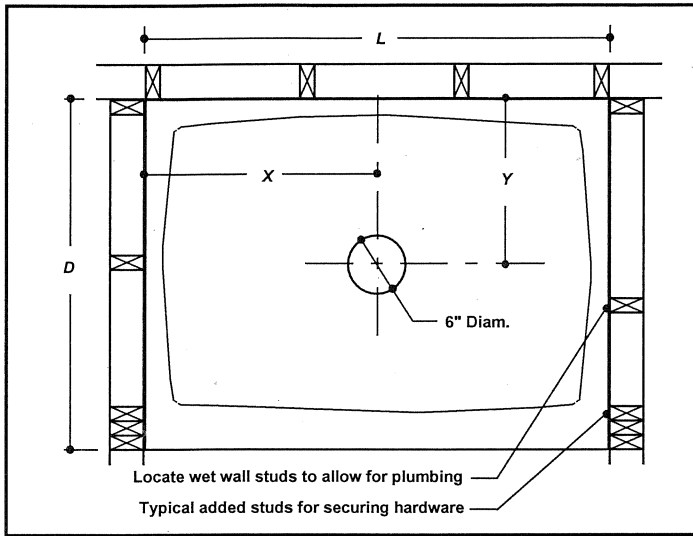

Fig. 2
- Step 1. Check the size of the opening against the required rough-in dimensions (See Shower Base Dimension Table). Check that walls are plumb, square and flat. Walls should be within 1/8" of true. Shim or trim opening, as required. Walls must be structurally sound and must provide the studding or blocking necessary for securing shower door or enclosure hardware, handrails, seats etc. (See Fig. 2, 3 & pg. 6, 7 & 8)
- Step 3. Locate, mark and cut a 6" - 7" diameter hole in the floor for floor drain clearance (See Fig. 2 or 3).